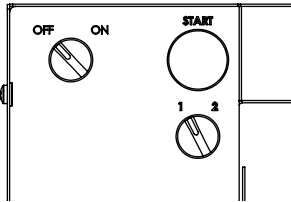

Figure 1
1. Take the Switch on the side of the Machine to "Off". **(Figure 1)**